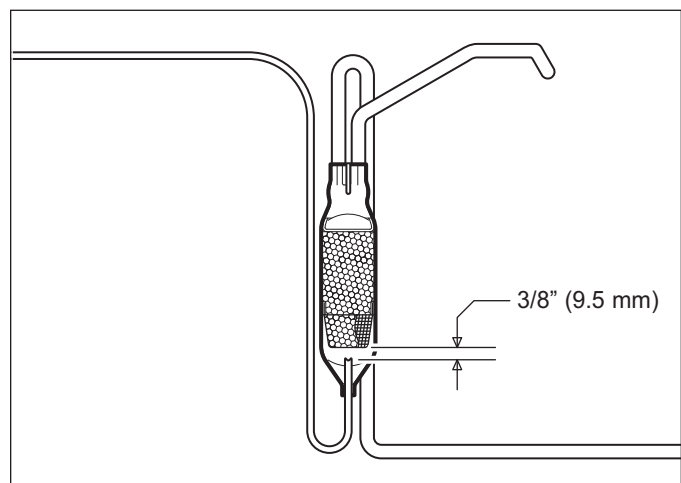

Figure 7-70. Capillary Tube Insertion Note
- When installing replacement filter-drier, insert capillary tube until it touches screen inside drier, then pull capillary tube away from screen approximately 3/8" before brazing. (See Figure 7-70).